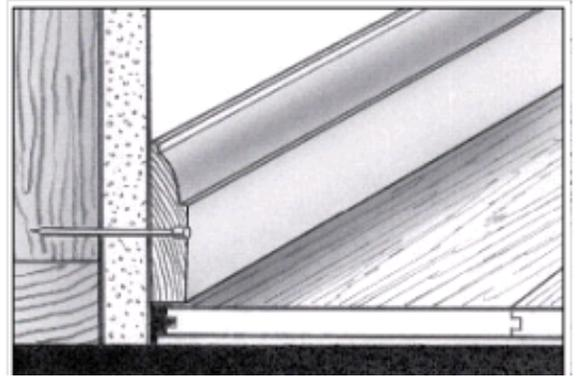

Fig. 18
24. Always predrill transitions or moldings prior to nailing. To allow the floating floor to move freely, **do not** fasten the trim to the laminate flooring (Fig. 18).